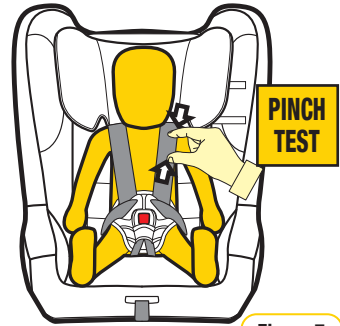

Figure 7
**Step 6:** Check the harness tightness by the **PINCH TEST**, this is achieved by pinching the harness webbing at the shoulders (refer Figure 7)